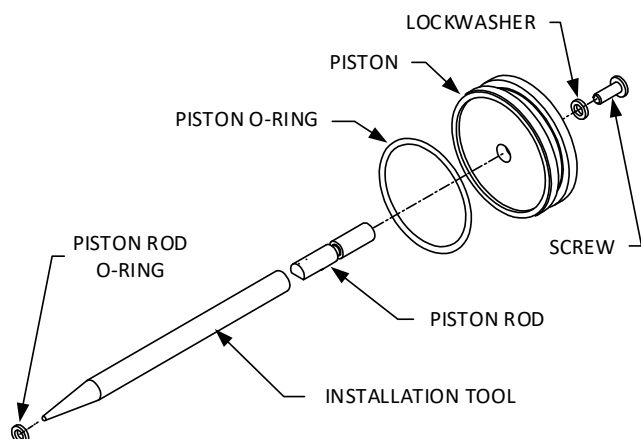

Fig. 7.14. Installing the O-Rings on the Piston Rod and Piston
15. Position O-Ring Tool part number 3122-1 over the piston rod (see Figure 7.14).